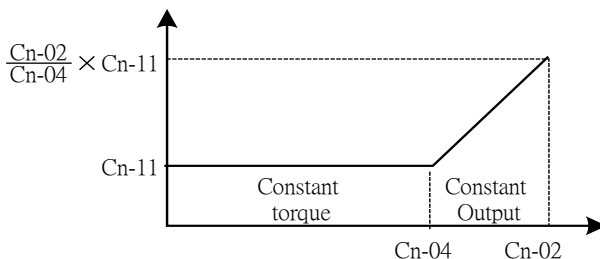

Fig 31 Slip compensation limit
2.	The setting is shown in Fig 31 in the constant torque and constant output range.